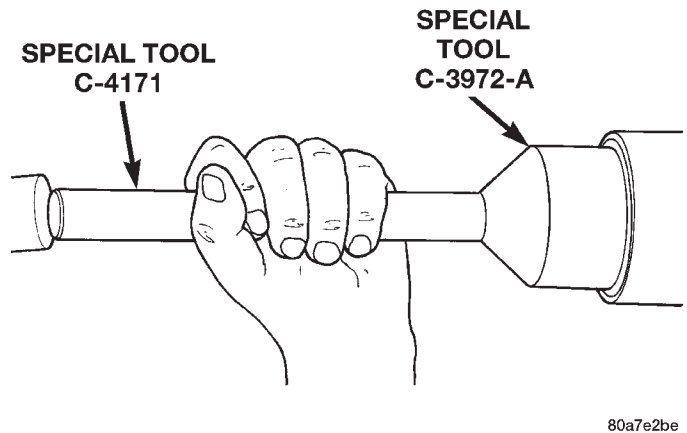

Fig. 49 Pinion Seal Installation
(4) Install front pinion bearing, and oil slinger, if equipped.
(5) Apply a light coating of gear lubricant on the lip of pinion seal. Install seal with Installer C-3972-A and Handle C-4171 (Fig. 49).